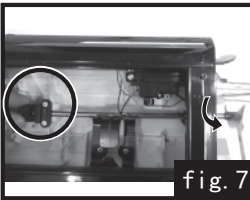

fig. 7
- 7.Hold the rubber part of main shaft, use spanner to release the nut at the end to take the propeller out,fig.7.